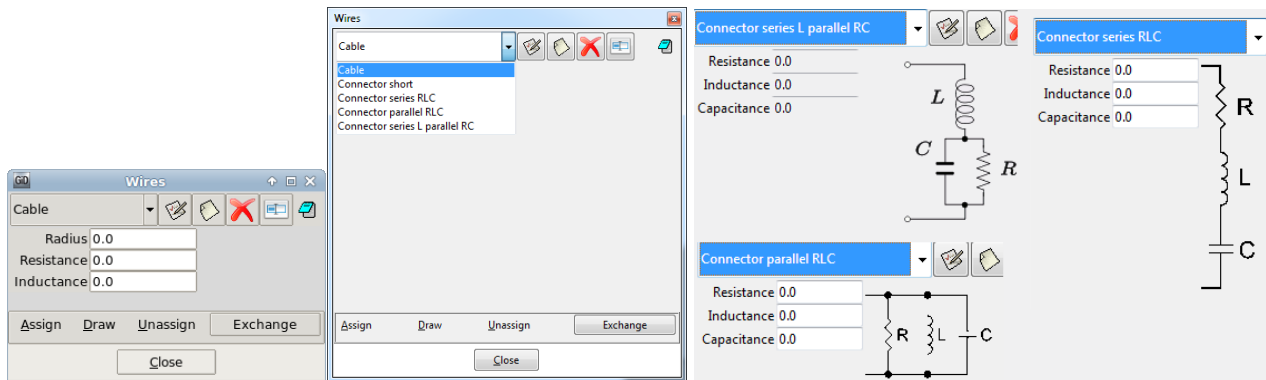

Figure 5: Cable and connectors dialog.
- Radius, resistance and inductance for a cable (Figure 5 left). The resistance and inductance are given in SI units per meter. Cables can only be assigned over lines. Two cables are considered to be different if they have different names.
- Connectors: (Figure 5 right)) are used to specify how a cable is terminated or connected to other cable or a surface. By default the solver will assume that the cables are terminated in an infinite impedance, unless they are grounded to PEC or lossy media (in this case a proper connection resistance is added). Connectors can only be assigned over segments; the user must create a small line close to the ending and define the type of connector over that segment. For this, GiD has a